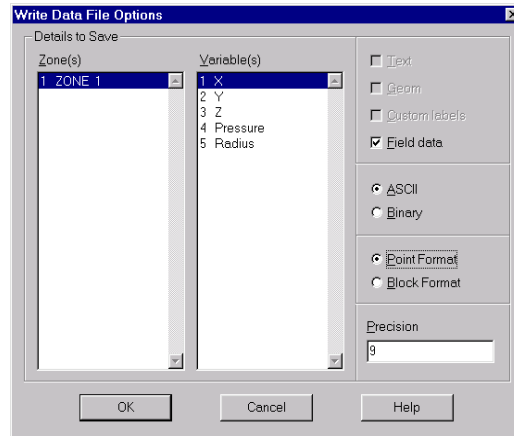

Figure 6-7. The Write Data File Options dialog.
1. From the File menu, choose Write Data File. The Write Data File Options dialog appears, as shown in Figure 6-7.